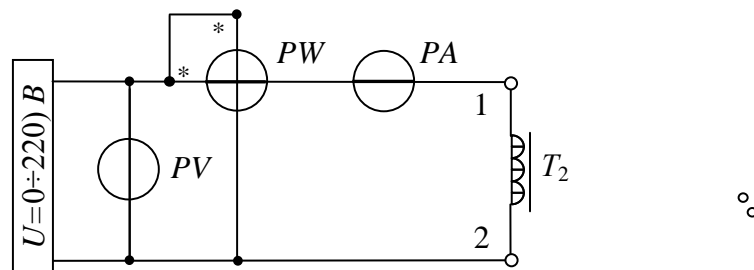

Fig. 8.11
1. Collect the electrical circuit (fig. 8.11)
The name and purpose of the work. The schematic diagram of the investigated circuit (fig.8.11). The tables 8.2, 8.3, 8.4. The characteristics graphs. Conclusions.